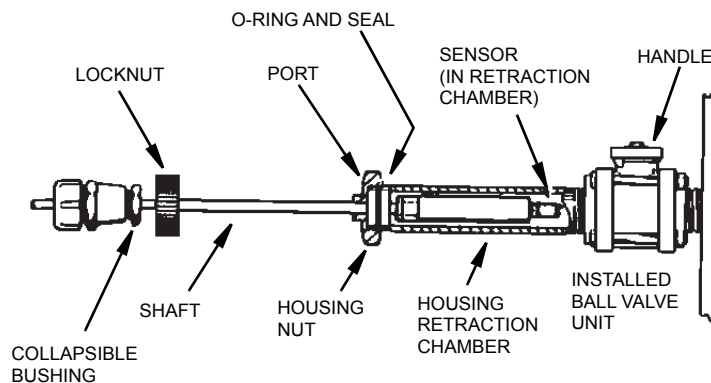

Figure 10. Ball Valve Shaft Installation and Removal
5. Carefully insert the sensor (connected to the insertion shaft assembly) into the housing retraction chamber until the O-ring and seal are seated into the end of the chamber (see Figure 10).
7. Slowly turn the handle on top of the ball valve unit (see Figure 10) to the open position (parallel to the housing as indicated by the arrow on top of the handle).
Do **not** loosen the **housing nut** (see Figure 10) when the ball valve unit is open and the process line or tank is filled and pressurized.